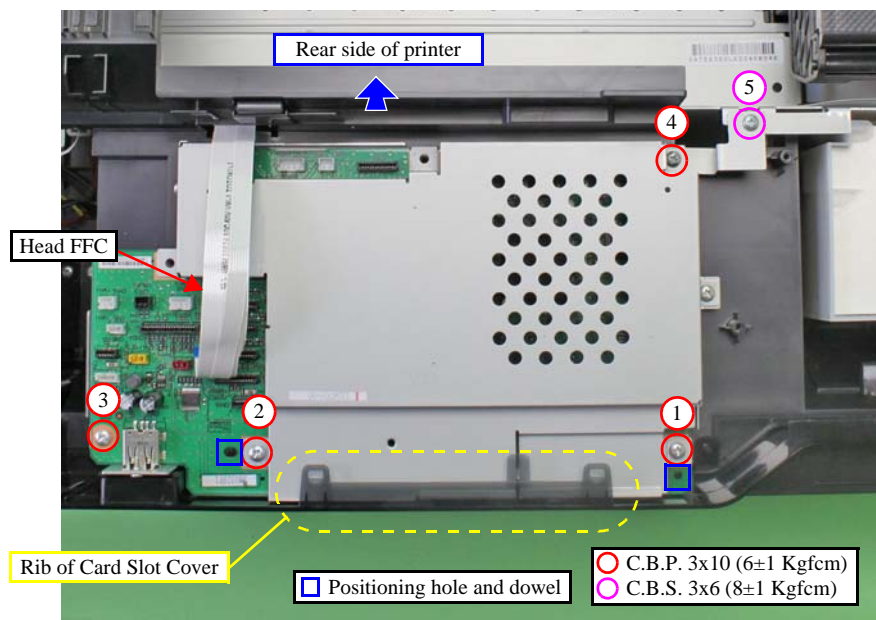

Figure 8-13. Removing the Main Board Unit (2)
- When installing the Main Board Unit, align the positioning holes (x2) of the Main Board Unit with the dowels (x2) of the Card Slot Cover. (See Figure 8-13.)
- Tighten the screws in the order given in Fig. 8-13.